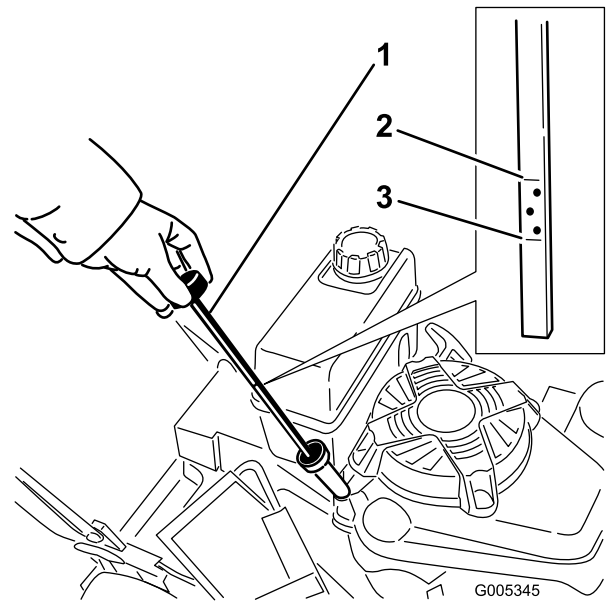

Figure 10
Before each use, ensure that the oil level is between the Add and Full marks on the dipstick (Figure 10).
2. Clean around the dipstick (Figure 10).
6. Remove the dipstick and read the oil level on the dipstick (Figure 10).